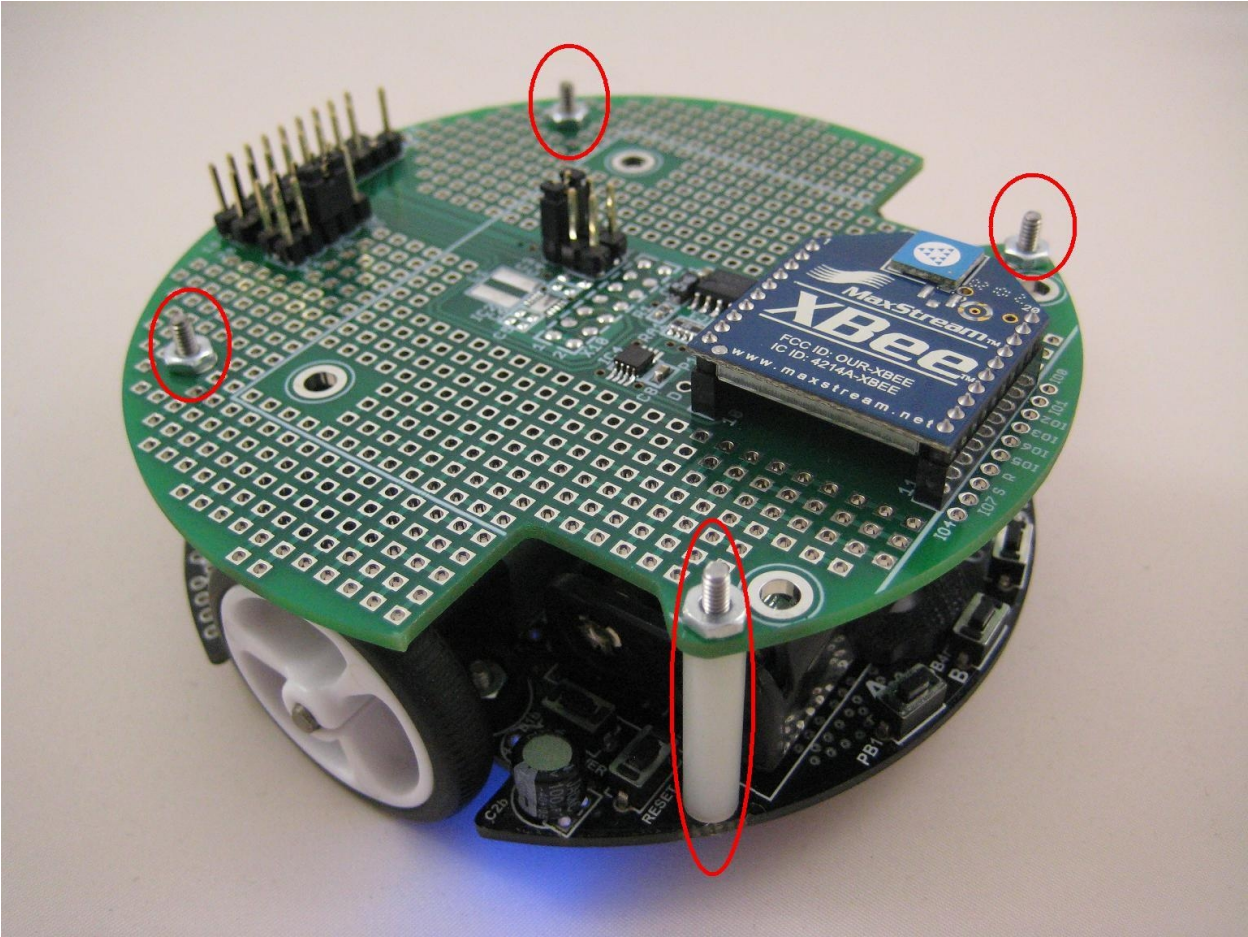

Figure 4
- Complete the hardware set up by adding 4 plastic stand offs and metal bolts as shown in Figure 4 (red circled).